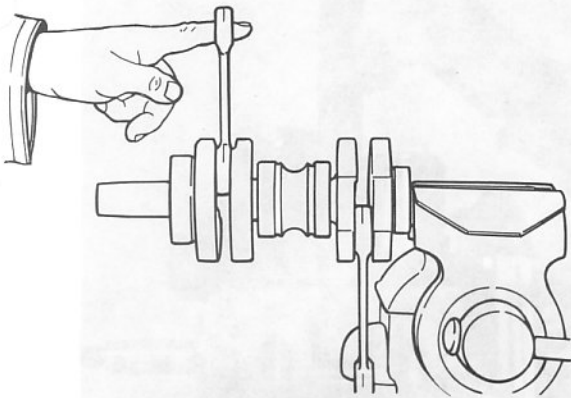

Fig E3
b) Check crankshaft for excessive wear: change if necessary. Con rod bearing upper and lower should be in good condition, rotation must be smooth. (Fig. E3) Small end needle bearing may be changed if necessary. Lower bearing of con rod cannot be removed; if these are damaged replace crankshaft assembly. Complete crankshaft after overhauling, lower it into bottom half crankcase carefully. Apply sealing compound to mating surfaces; install upper half crankcase and tighten screw. Upper and lower crankcase shows an identical number, they must not be exchanged by mistake.